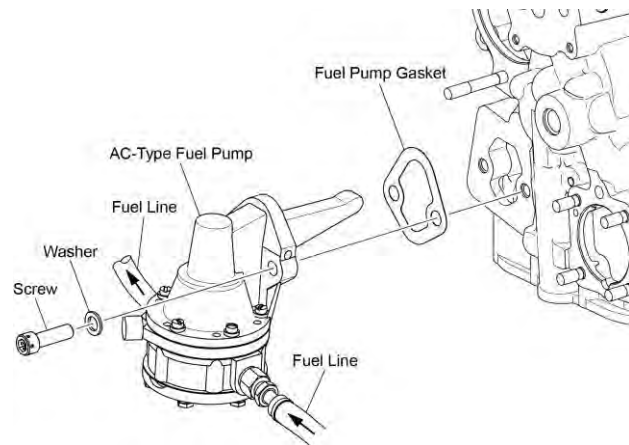

Figure 11
- (1) Put a fuel collection container under the fuel line connections at the AC-type fuel pump (Figure 11).
- (2) Apply a label and disconnect the fuel lines to the fuel pump.
- (3) Remove the two screws and washers from the fuel pump.
- (4) Remove the fuel pump and gasket from the accessory housing. Discard the gasket.
- (5) Remove the fuel collection container.
- (1) Turn the crankshaft to move the fuel pump plunger to the highest position.
- (2) Apply Lubriko grease to the shaft of the AC-type fuel pump.
- (3) Apply Loctite® 564 to the fuel pump screws.
- (4) Install the fuel pump with a new gasket on the accessory housing as shown in Figure 11 with the two washers and two screws.
- (5) Torque the screws to 225 to 250 in.-lbs. (25 to 28 Nm).
- (6) Connect the fuel lines to the fuel pump. Torque the fuel fitting to 23 to 24 ft.-lb. (31 to 35 Nm). Make sure that the fuel lines are securely connected.
- (7) During the operational check after all maintenance is complete, look for fuel leaks at the fuel lines and connections during engine operation. Identify and correct the cause of any fuel leak. There must not be any fuel leaks when the engine is returned to service.